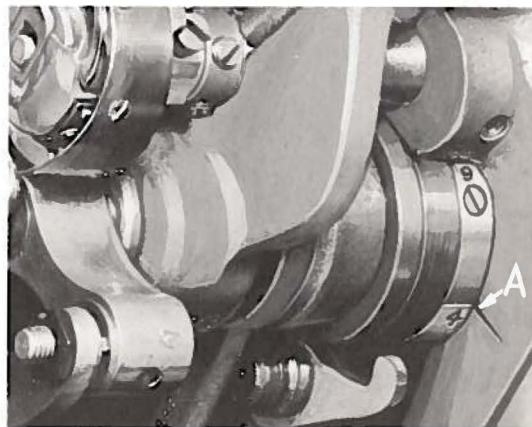

Fig. 28
Tip the machine back against the rest pin and turn handwheel until the needle bar is at the top of its stroke. The timing line "4" on the feed drive eccentric should line up with the mark on the wall of the casting (A, Fig. 28).
5. Hold the handwheel securely and turn the lower main shaft until the timing mark "4" on the adjustable feed driving eccentric and mark on the casting wall line up (A, Fig. 28).